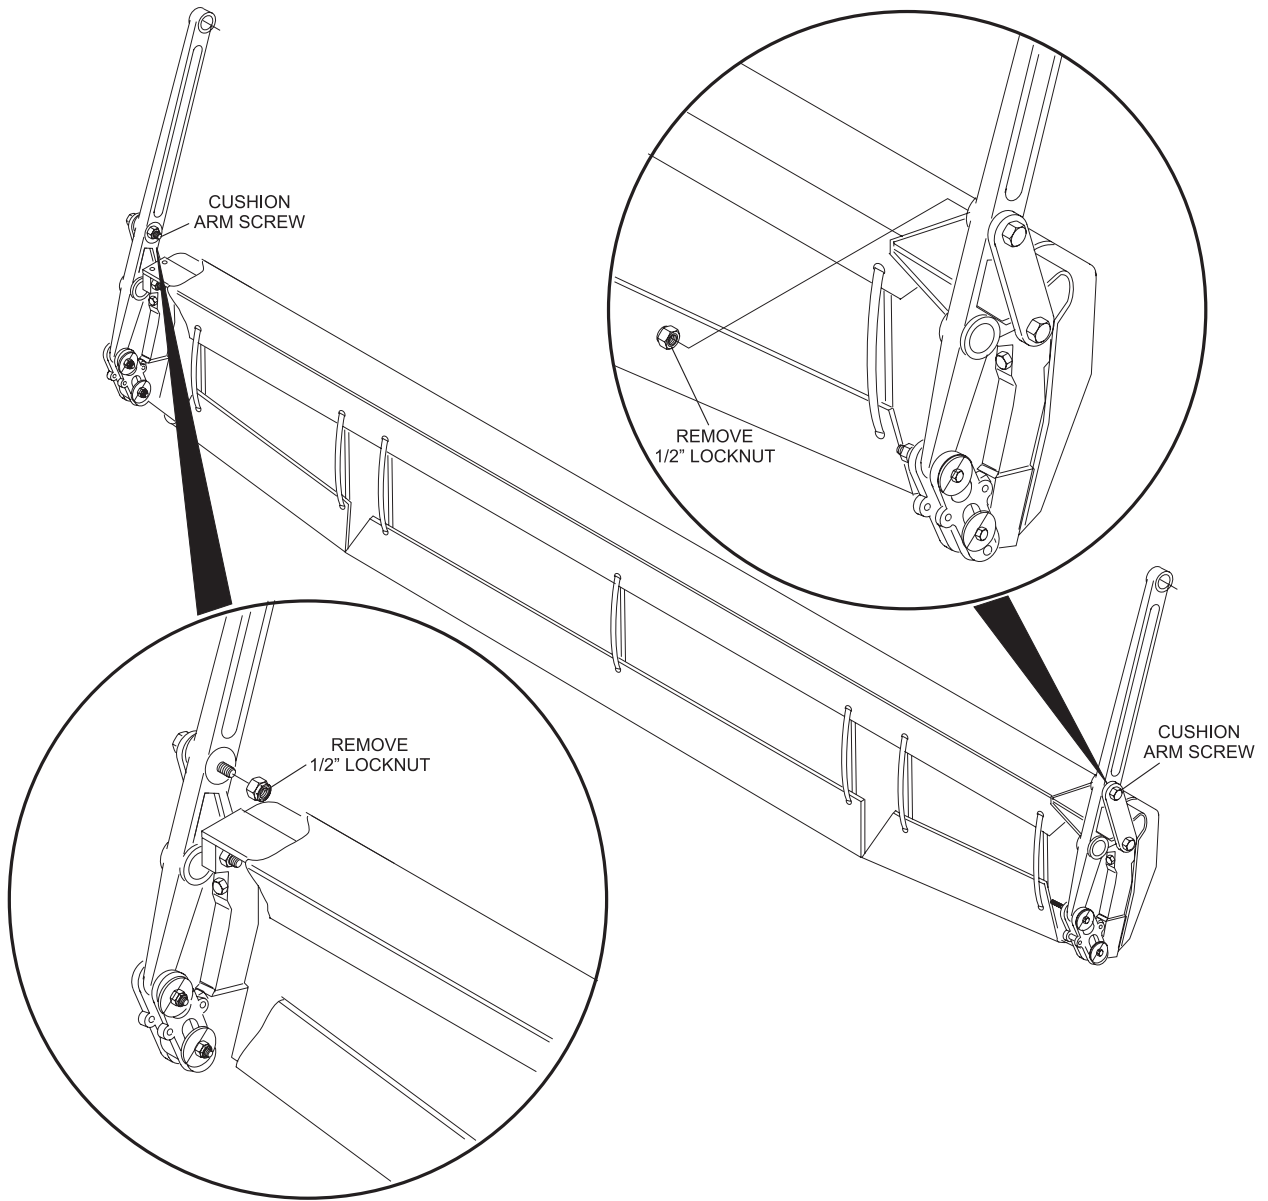

Figure 2
2. Remove the 1/2" locknut (11-121523-000) from the cushion arm screw (12-252352-000). Refer to *Figure 2*.